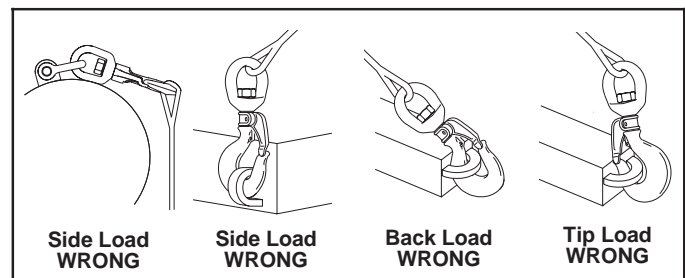

Figure 2
- Never side load, back load, or tip load a hook. Side loading, back loading and tip loading are conditions that damage and reduce the capacity of the hook. (See Figure 2.)